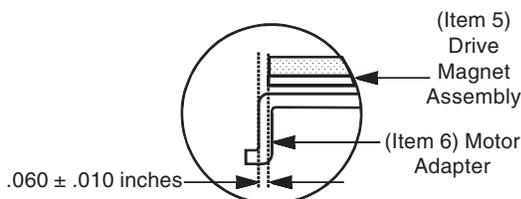

Figure 1
4. Remove drive magnet assembly (Item 5) from box and slide assembly onto motor shaft making sure shaft key (Item 12) is in place. Installation dimension is $.060 \pm .010$ inches as shown in Figure 1. Tighten 2 set screws, Item 5A.